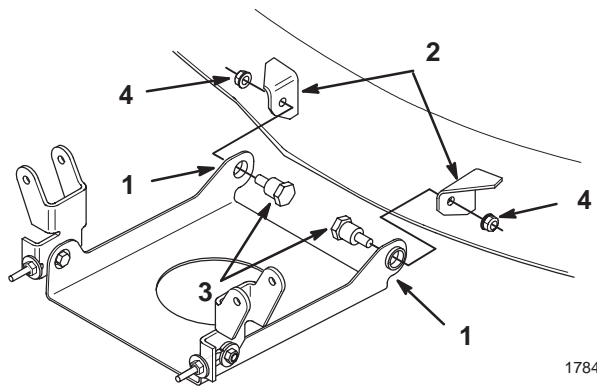

Figure 4
7. Position the mounting plate, with the tabs up, between the brackets on the front of the mower (Fig. 4).
8. Insert the shoulder bolts through the mounting plate into the mower brackets. Secure them with locknuts (Fig. 4).